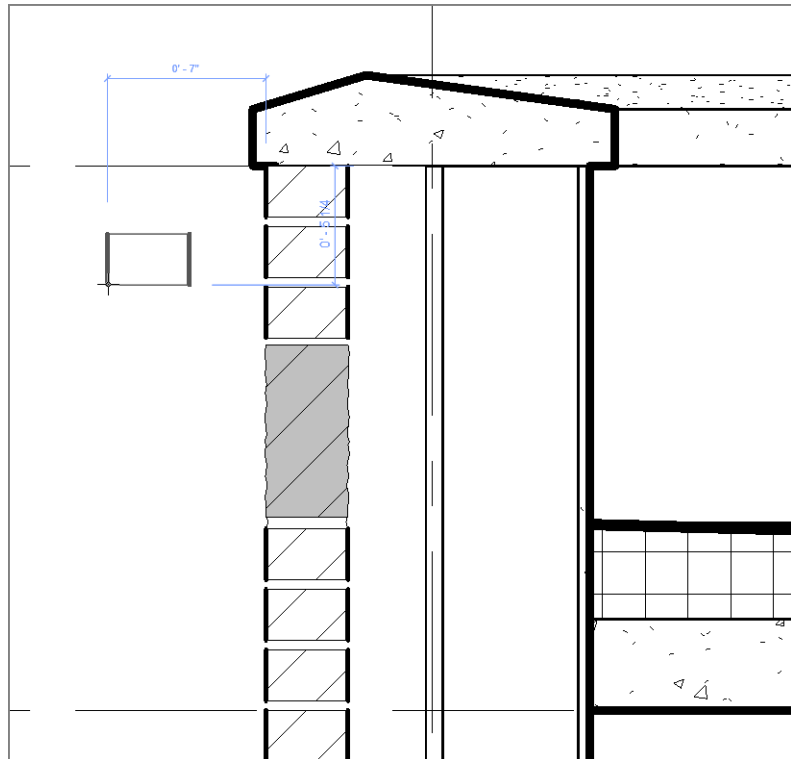

FIGURE 12.34: Place the Brick Standard : Running Section detail component off to the side. You'll delete this occurrence of the component later.
3. Place the detail component off to the side of the wall, as shown in Figure 12.34.